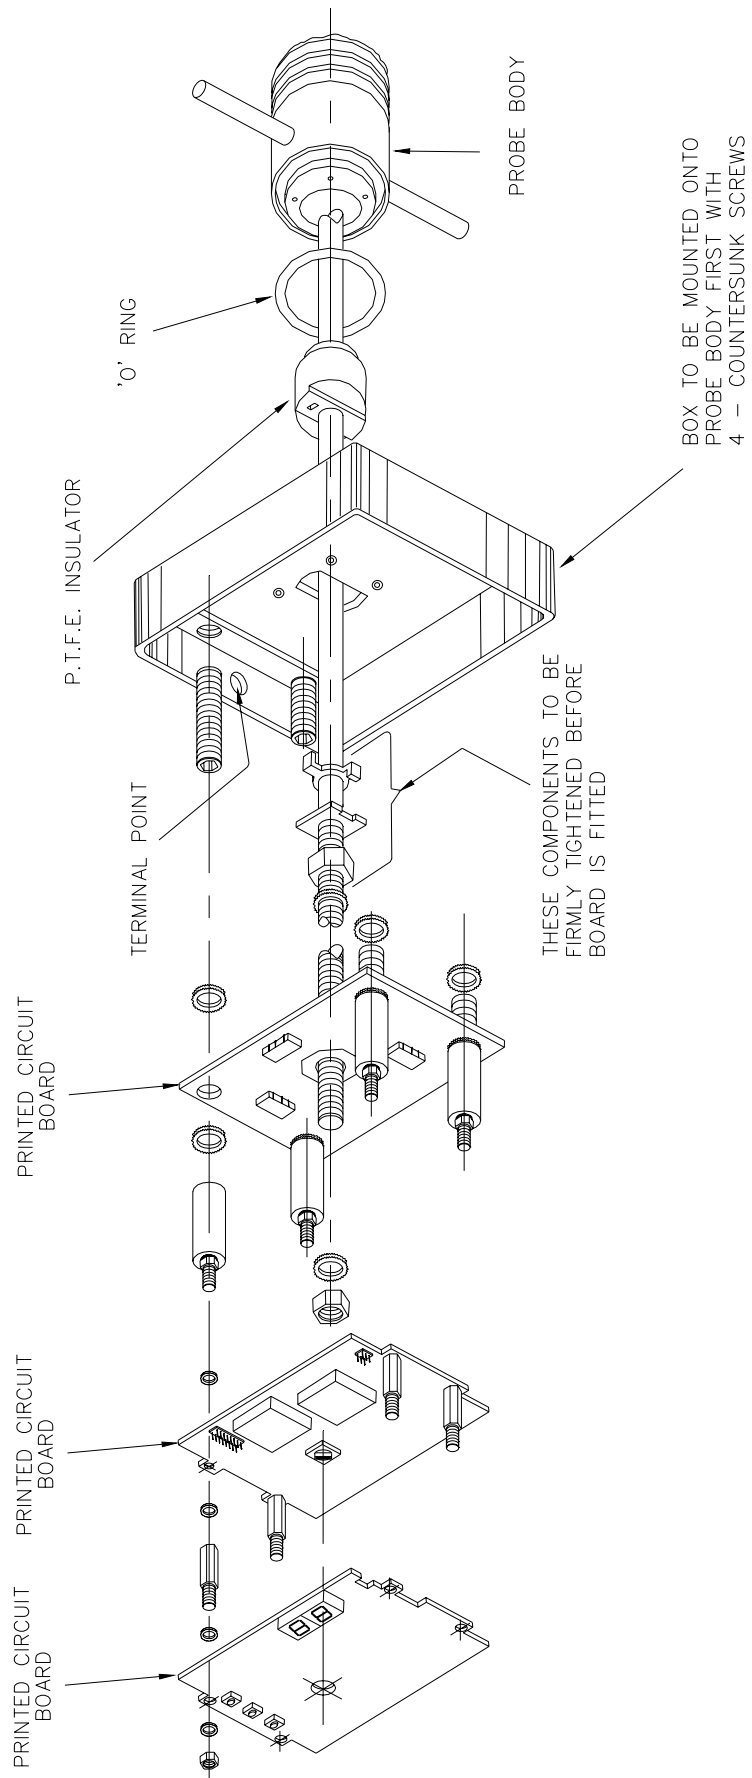

Figure 10: R.F. Probe Control Box Assembly Procedure
Fig.10 shows an exploded view of how the main boards are mounted in the housing.
1. If for any reason the lock washer and two nuts on the centre rod have been removed, these must be replaced and tightened as indicated in Fig.10. It is important that these components are fitted as shown, not only to properly secure the probe tip, but also to provide a level mounting for the main circuit board. (Incorrect assembly can distort and damage the main circuit board).